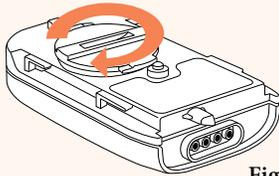

Fig. 3
- e. Replace the battery door and secure it in place by rotating clockwise. (Fig. 3)